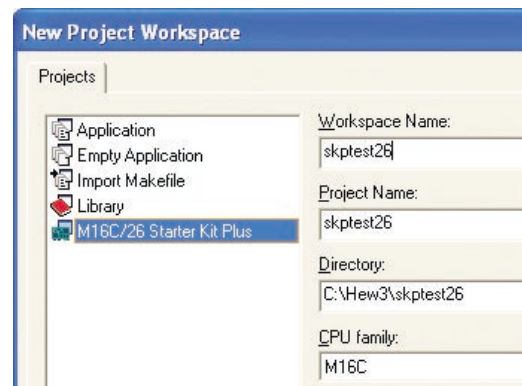

Figure 3. New Project Workspace in HEW
- ii) Select “M16C/26 StarterKit Plus” (Figure 3).